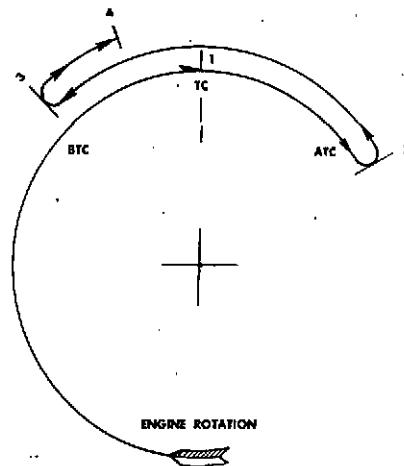

Fig. 14-32 (V31435). Injection Timing Procedure Diagram.
4. Rotate the crankshaft in the direction of engine rotation to the Top Dead Center (TDC) position of the compression stroke for the No. 1 cylinder, (1) Fig. 14-32. Loosen the thumbscrew for the piston travel gauge. Move the gauge so that the stem of the gauge is in the center of the piston plunger rod. Lower the gauge against the piston plunger rod until the stem is fully compressed, then raise the gauge approximately 0.025 inch. Tighten the thumbscrew to hold the gauge in position. Rotate the crankshaft 2 or 3 degrees clockwise and counterclockwise to make sure the piston is at TDC. Loosen the setscrew for the gauge dial and turn the dial so that the indicator is at zero. Tighten the setscrew.
5. Rotate the crankshaft in the direction of engine rotation to 90 degrees After Top Dead Center (ATDC), (2) Fig. 14-32. Loosen the thumbscrew for the push rod travel gauge. Move the gauge so that the stem of the gauge is in the center of the push rod adapter. Lower the gauge against the adapter until the stem is fully compressed. Then raise the gauge approximately 0.025 inch. Tighten the thumbscrew to hold the gauge in position. Loosen the setscrew for the gauge dial. Turn the dial so that the indicator is at zero. Tighten the setscrew.
- c. Continue to rotate the crankshaft past TDC until the indicator shows 0.225 inch (two and one-fourth revolutions of the indicator needle past TDC, (3) Fig. 14-32). This step is necessary to take up the gear lash in the engine.
7. Rotate the crankshaft in the direction of engine rotation until the piston travel gauge is at 0.2032 inch BTDC (4) Fig. 14-32.